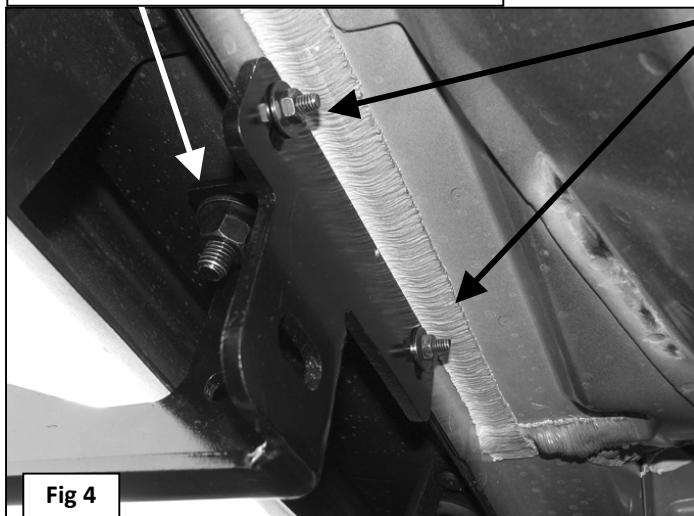

Fig 4
2. Next, select the Driver Side Front Mounting Bracket. Bolt the Mounting Bracket to the back of the pinch weld with (2) 6mm x 25mm Hex Bolts, (4) 6mm Flat Washers and (2) 6mm Nylon Lock Nuts, (**Figure 4**). Do not tighten hardware at this time.